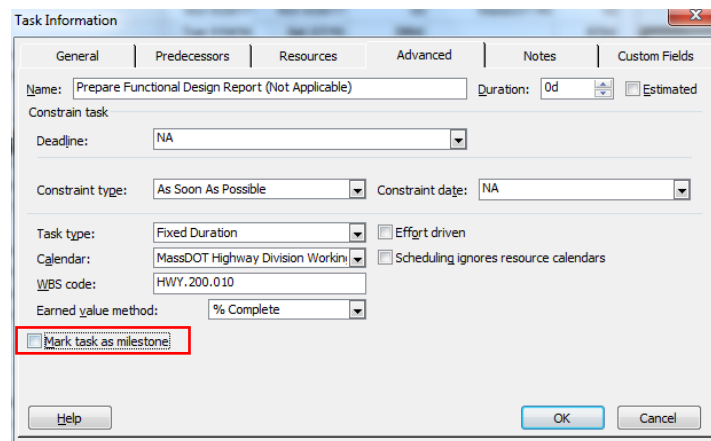

Figure 3.2B
- Uncheck the “Mark Task as Milestone” checkbox (Figure 3.2B)